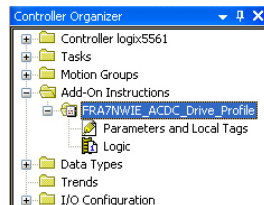

Figure 93: AC/DC Drive Profile Add-On Instruction
- 2) Right click on “Add-On Instructions” in the controller organizer view and select “Import Add-On Instruction”. Browse and import the AC/DC drive profile add-on instruction. Refer to Figure 93.